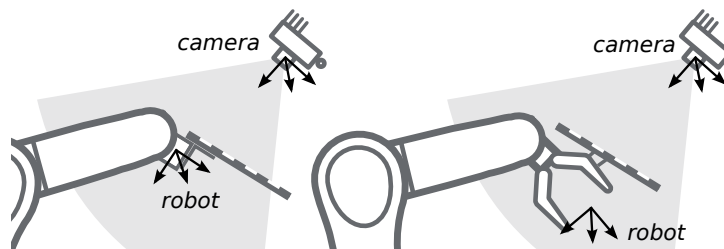

Fig. 6.18: Alternate mounting options for attaching the calibration grid to the robot
**Calibration with a statically-mounted camera** In use cases where the camera is positioned statically w.r.t. the robot, the calibration grid needs to be mounted to the robot as shown for example in Fig. 6.17 and Fig. 6.18.
**Note:** The hand-eye calibration module is completely agnostic about the exact mounting and positioning of the calibration grid w.r.t. the user-defined *robot* frame. That means, the relative positioning of the calibration grid to that frame neither needs to be known, nor it is relevant for the calibration routine, as shown in Fig. 6.18.